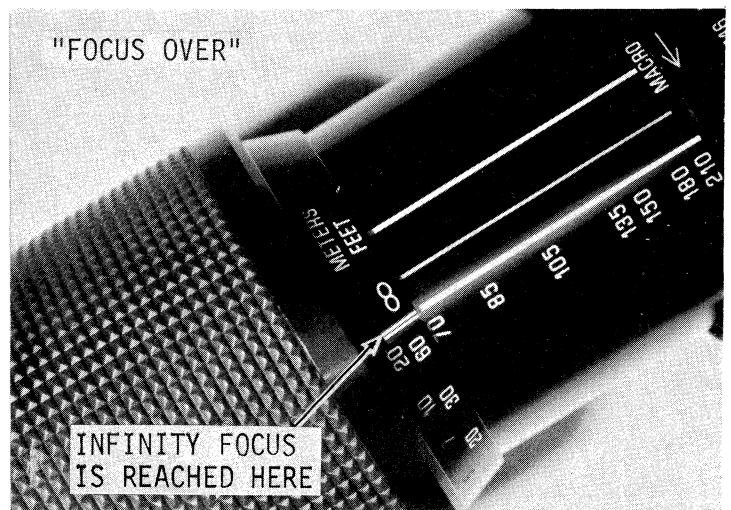

Fig. 59
10.2.2 Focus Over - When rotating Zoom Collar to focus at infinity, infinity focus is reached before the focusing scale reaches the infinity mark of the lens. (Fig. 59)